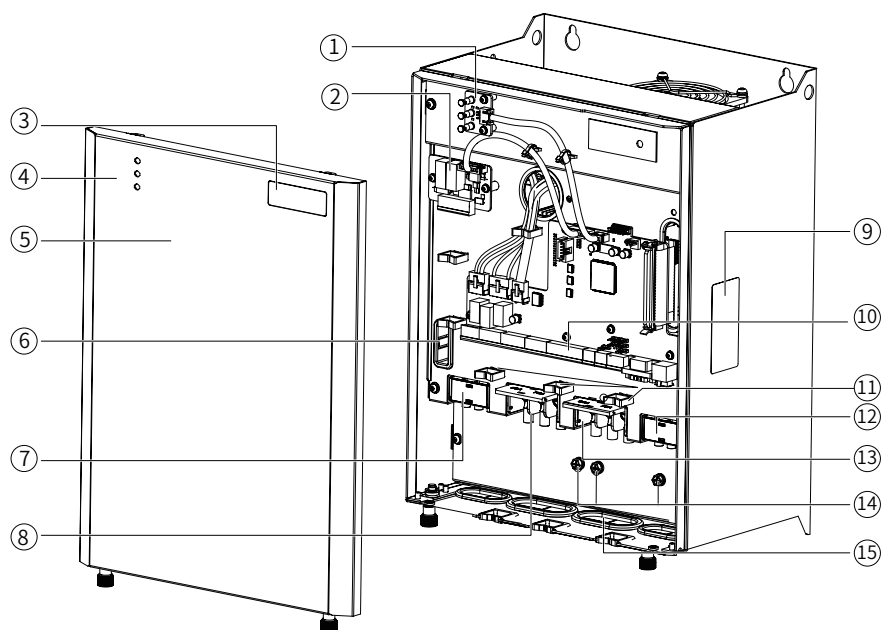
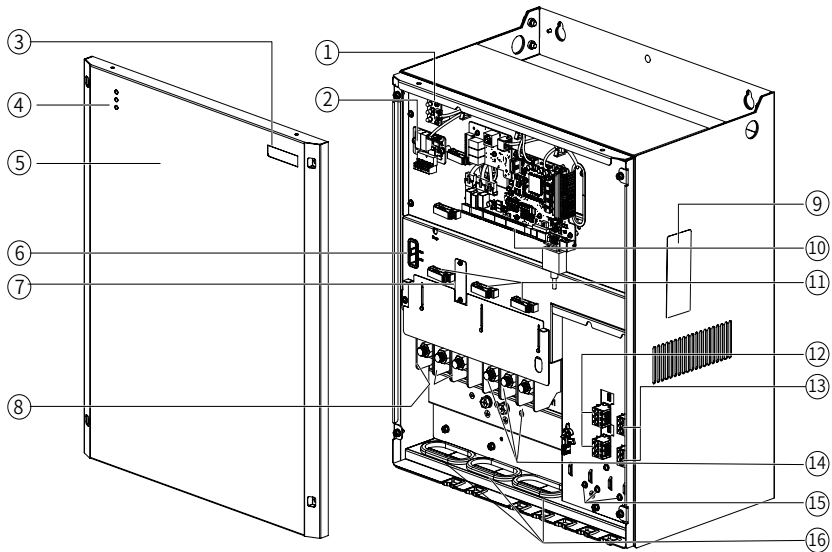

Figure 1-2 Figure 1-2 Components of CP700-4T18.5-H-INT to CP700-4T22-H-INT
Figure 1-3 Figure 1-3 Components of CP700-4T110-H to CP700-4T132-H
- ◆ Figure 1-2 takes CP700-4T18.5-H-INT to CP700-4T22-H-INT as examples to describe components of products with the low power rating. Figure 1-3 takes CP700-4T110-H to CP700-4T132-H as examples to describe components of products with the high power rating. For components of other models, refer to the received product.